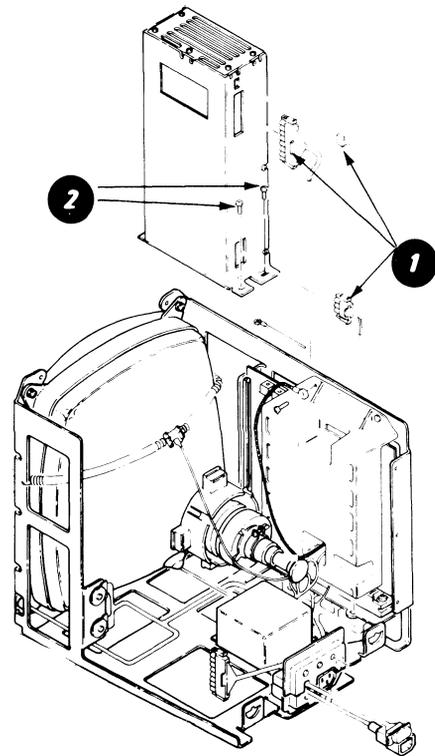

Figure 21 - Low Voltage Power Supply Removal
4. Disconnect LV1 (LED 0), LV2 (DC), and LV3 (AC) connectors **1** from the low voltage power supply (see Figure 21).